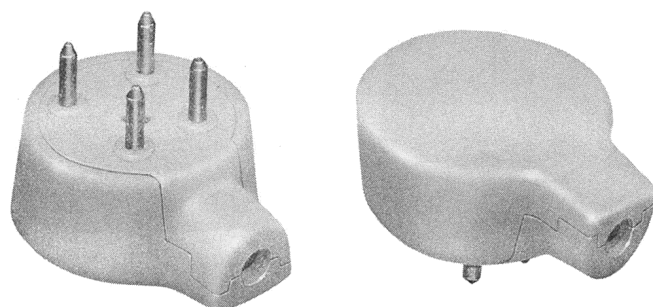
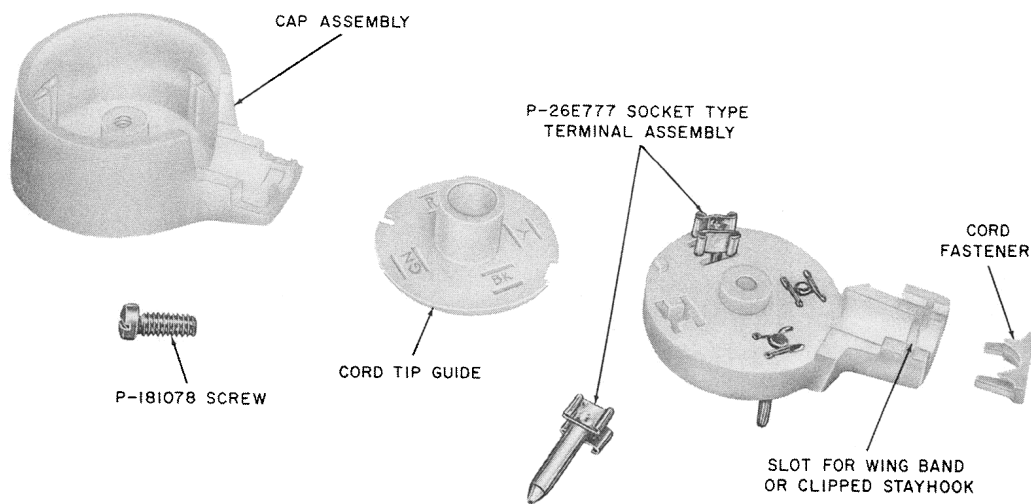

Fig. 6 — 505A Plug
Fig. 7 — 505A Plug Disassembled
2.07 The 505A plug (Fig. 6) is a 4-contact plug similar to the 504A plug, but has in addition a cord fastener (Fig. 7) which holds the cord in place while the spade tips are being connected. The cord fastener also anchors the mounting cord in the assembled plug.